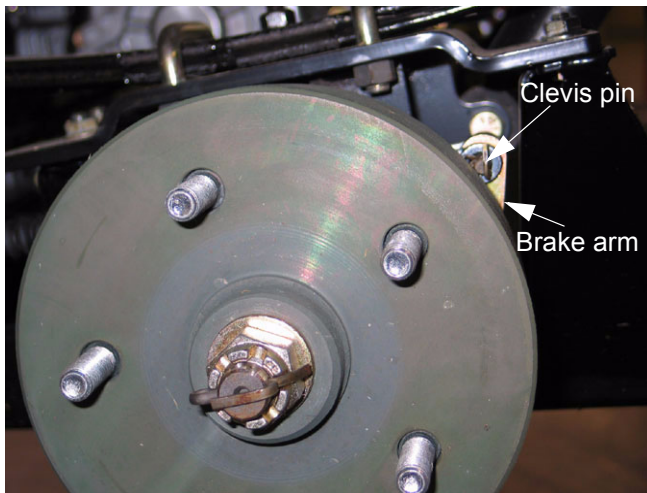

Figure 2.4
- 2.4. Verify the correct orientation of the brake arm on the brake actuator cam: The clevis pin on the brake lever should be visible just beyond the brake drum when viewed from the side, with the brakes released. See Figure 2.4.